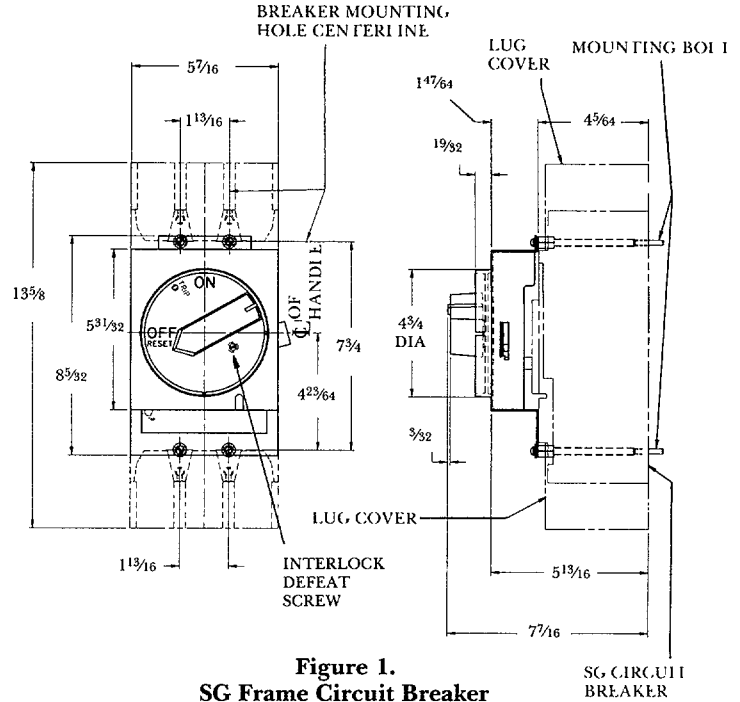

Figure 1.
B. Dimensions for the SG Frame Circuit Breaker and Integral Handle are found in Figure 1.
- 1. Close enclosure door. Turn handle to ON. Door should not be able to open with handle in ON position. To open door, turn defeater screw (see Figure 1) located in indicator plate counterclockwise, or turn handle to OFF position.